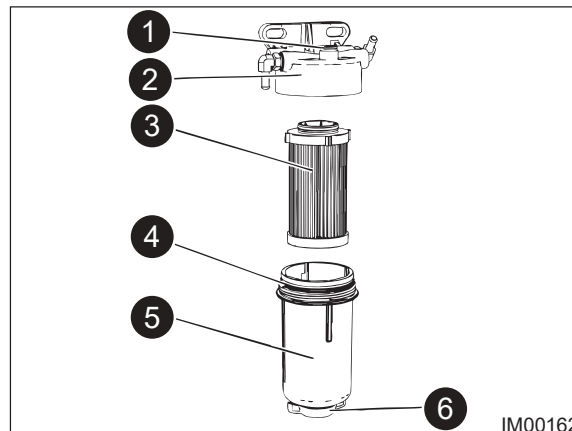

Fig: 11.21 - Secondary Fuel Filter
4. Clean the outside body of the Filter Assembly (Fig: 11.21).
5. Open the Drain Valve (Item 6) and if necessary, open Vent Screw (Item 1). Allow the fuel to drain from the filter. Tighten vent screw securely and close drain valve. Ref: Fig: 11.21.
6. Use a suitable strap wrench remove the Filter Bowl (Item 5) from Filter Base (Item 2). Ref: Fig: 11.21.
7. Remove the Filter Element (Item 3) and discard the element. Remove the O ring seal (Item 4) from Filter Bowl (Item 5). Discard the old O ring seal. Ref: Fig: 11.21.
8. Ensure the Filter Bowl (Item 5, Fig: 11.21.) is clean and free from dirt.
9. Install Filter Element (Item 3) into Filter Base (Item 2). Ref: Fig: 11.21.
10. Install a new O ring seal (Item 4) to Filter Bowl (Item 5) and install filter bowl to Filter Base (Item 2). Do not use a tool to install the filter assembly. Use hand pressure only to tighten filter bowl. Ref: Fig: 11.21.